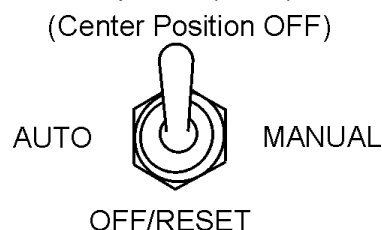

Figure 55. Auto-Off/Reset Switch (Auto/Reset)
3. Place the Auto-Off/Reset-Manual switch (Figure 55) in the **AUTO/RESET** position (center).
2. Place the Auto-Off/Reset-Manual switch (Figure 55) in the **AUTO/RESET** position (center).